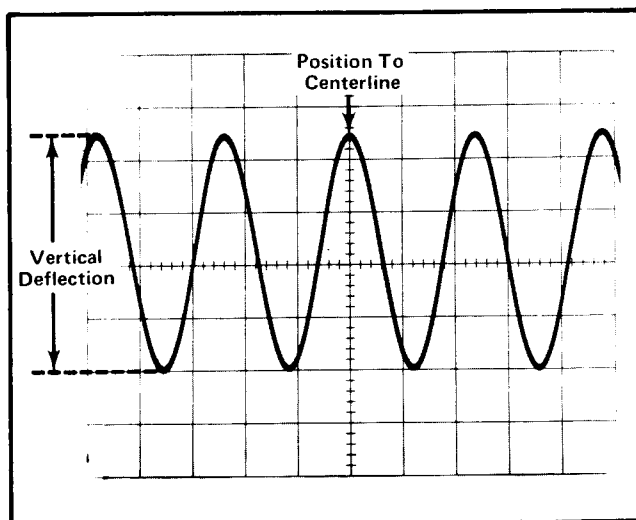

Fig. 1-4. Measuring the peak-to-peak voltage of a waveform.
6. Turn the 7A26 POSITION control so the lower portion of the waveform coincides with one of the graticule lines below the center horizontal line, and the top of the waveform is within the viewing area. With the time-base Position control, move the display so one of the upper peaks lies near the center vertical line (see Fig. 1-4).
EXAMPLE: Assume that the peak to peak vertical deflection is 4.5 divisions (see Fig. 1-4) using a 10X attenuator probe, and the VOLTS/DIV switch is set to 1 V.